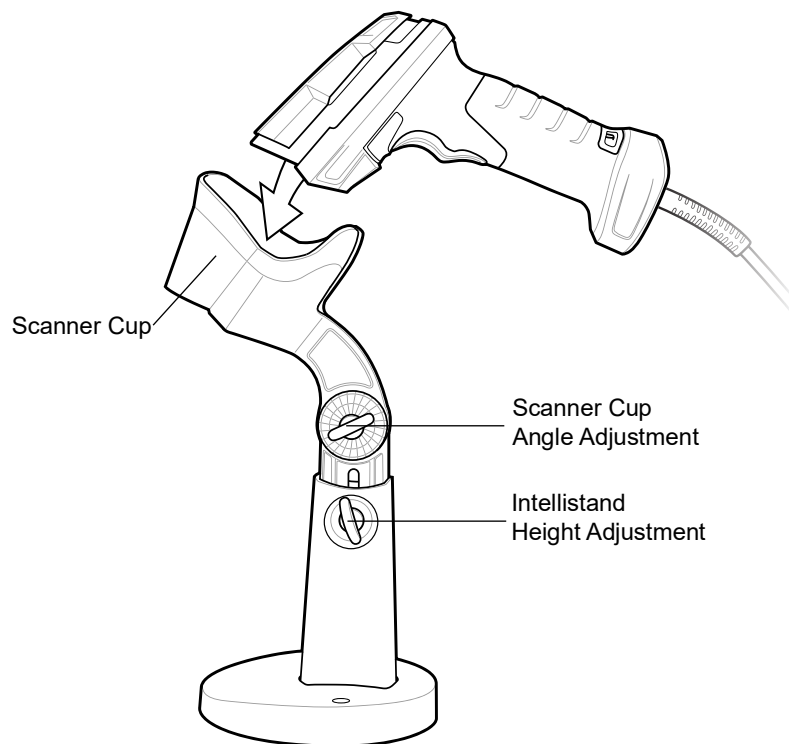

Figure 3-5 Scanning DS3608 in Hands-free Mode
2. Insert the digital scanner in the Intellistand by placing the front of the digital scanner into the scanner cup (see Figure 3-5).